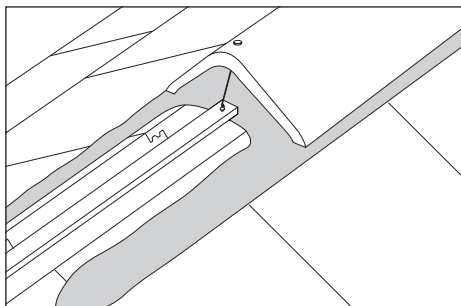

Fig. 19 – Bedded ridge tile using mortar bedded security ridge kit
- 1 Edge-bed ridge tiles onto the top course tiles with solid bedding at butt joints (Fig. 19) and ensure all ridges are mechanically fixed.